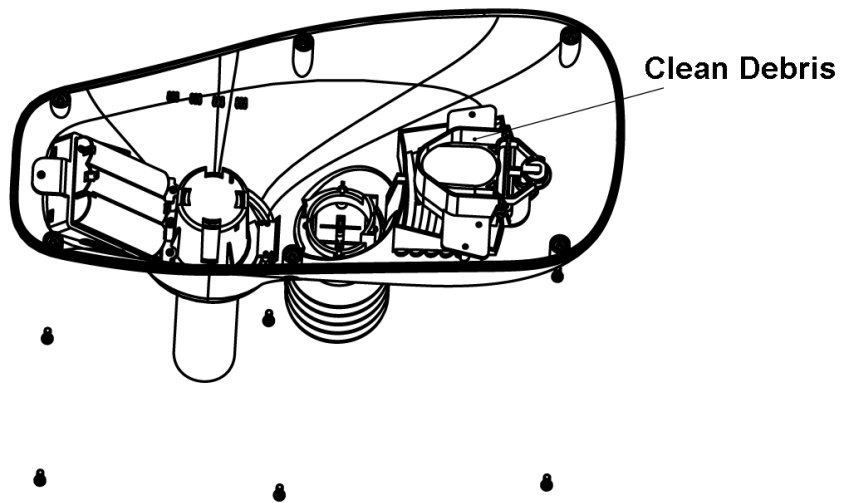

Figure 38
3. Clean any debris and spider webs, as shown in Figure 38.